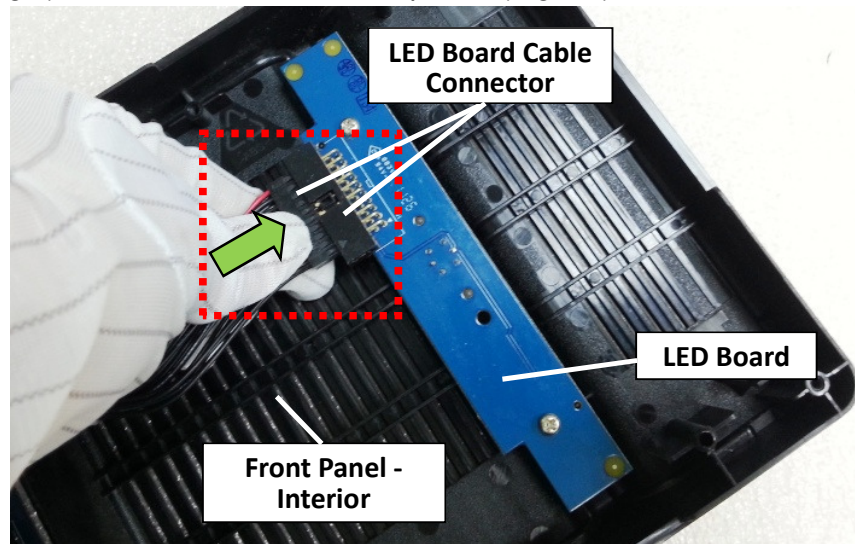

Fig. 70
3.2.3 Plug back the LED board cable connector to its original location (Marked by the red rectangle) on the interior of the front panel. (Fig. 70)